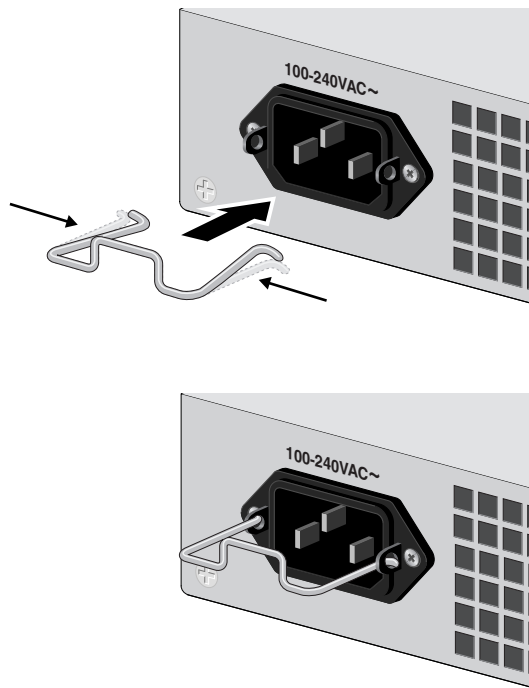

Figure 17. Inserting the Retaining Clip into the Retaining Bracket
2. Install the clip on the AC power connector on the back panel of the switch. With the “u” of the clip facing down, press the sides of the clip toward the center and insert the short ends into the holes in the retaining bracket, as shown in Figure 17.